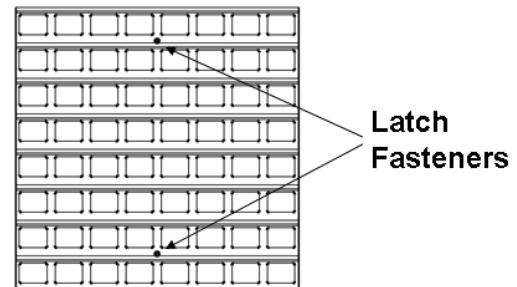

Figure 22: TNMC Module, Front View
1. Loosen the latch fasteners on the front face the LED module using a 1/8" hex wrench (or 7/32" nut driver for displays installed prior to 11/29/05). One latch fastener is centered below the top row of pixels and one is centered above the bottom row (**Figure 22**).